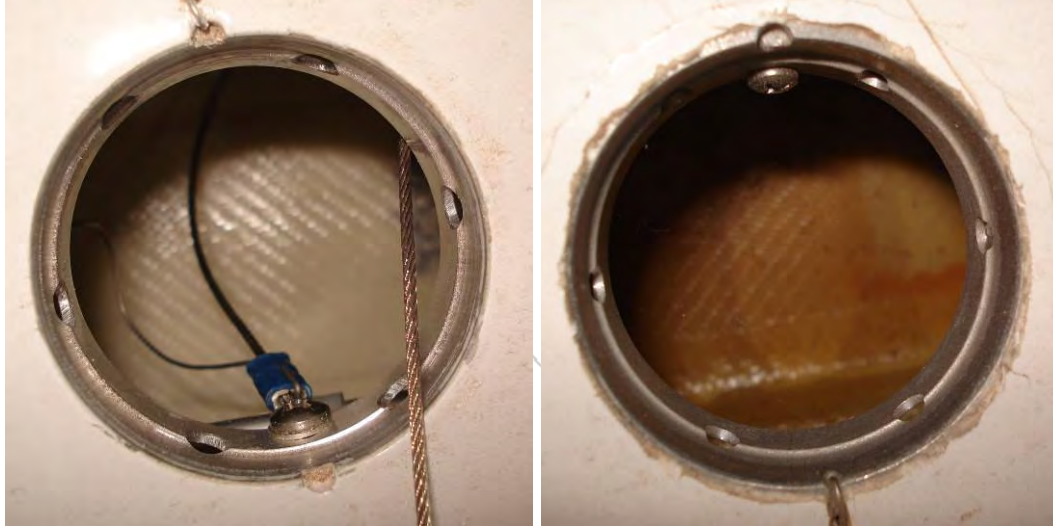

Figure 4 – Fuel Tank Sealant Colours (White on Left)
- **Important Note For Jabiru Aircraft:** Only aircraft with white coloured fuel tank sealant can use fuel containing alcohol. Earlier tanks use a caramel coloured sealant – this sealant is soluble in alcohol & must not be used with an alcohol blend fuel. Fuel tanks with caramel-coloured sealant may be re-sealed with white sealant – contact Jabiru Aircraft or our local representative for details. Figure 4 shows the sealant colour as seen through the filler.